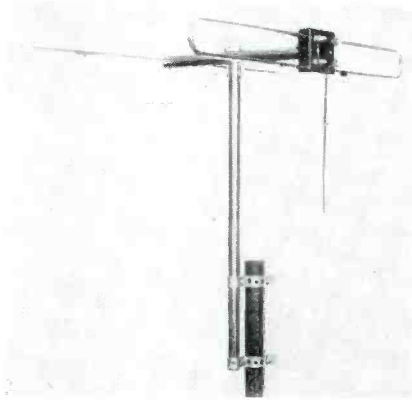

Fig. 1. A h-f attachment with a divider network which isolates the attachment from the l-f antenna. (Courtesy Vertron.)
shown in Fig. 1. These attachments (with or without divider networks) should be installed above the low-frequency arrays, so that ground capacities have a minimum influence in the high-frequency element.
If the location is an outdoor one, the distance to be covered must be known; Fig. 2. The necessary angle of coverage with respect to the point of location of the loudspeaker or loudspeakers must also be known. If the location is an indoor one, the volume to be covered must be known; Fig. 1. (The information which follows will be ade-
**Indoors:** The greatest sound pressure level is required for the reproduction of concert music. For this type of reproduction, *curve A* of Fig. 1 should be used. For the average sound system used to reproduce speech, vocal music, dance music and the like, *curve*
Fig. 1. Acoustic power requirements, indoors. The *A* plot shows the maximum requirements for concert music; *B*, normal public address requirements for music; *C* normal requirements for speech.